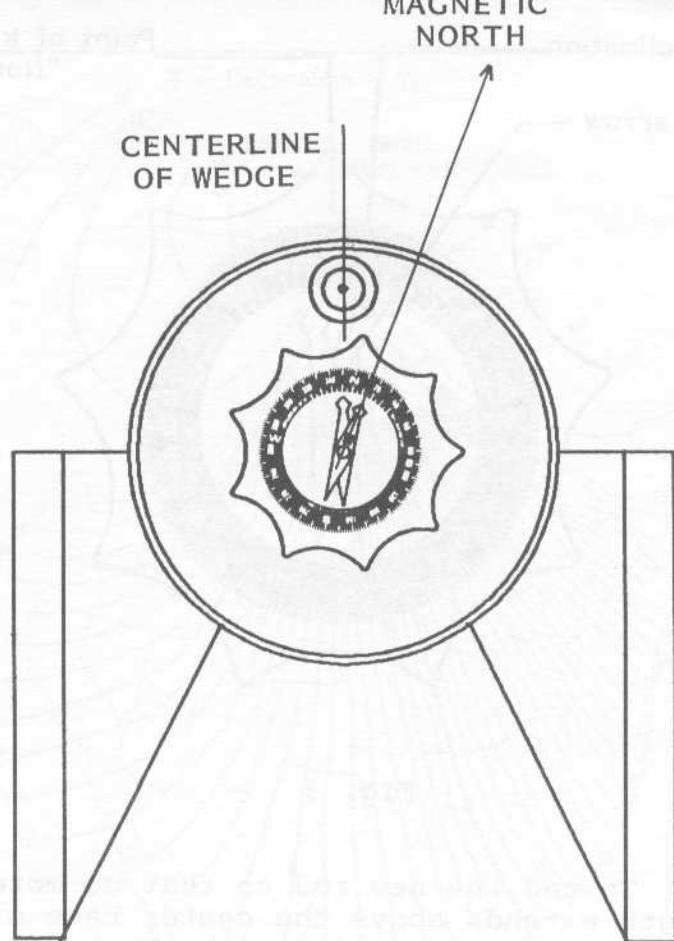

Fig. 4
1. Loosen the knob/compass slightly. This allows for rotation of the Equatorial Wedge under the knob/compass (Fig. 4). The magnetic pointing arrow will point to magnetic north.